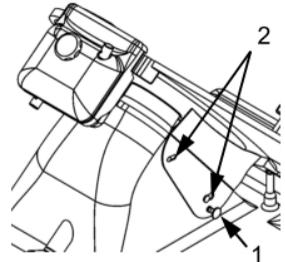

Fig. 33
- To remove the cold meats guide, pull it upwards with the handle (1, fig. 33) until it is released from two pins (2, fig. 33).